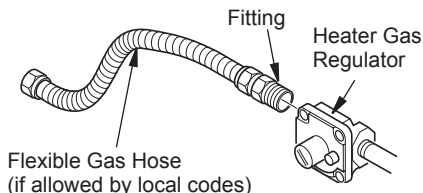

Figure 11 - Attaching Flexible Gas Hose to Heater Gas Regulator
4. Disconnect gas line from heater base as shown in Figure 11, page 12.